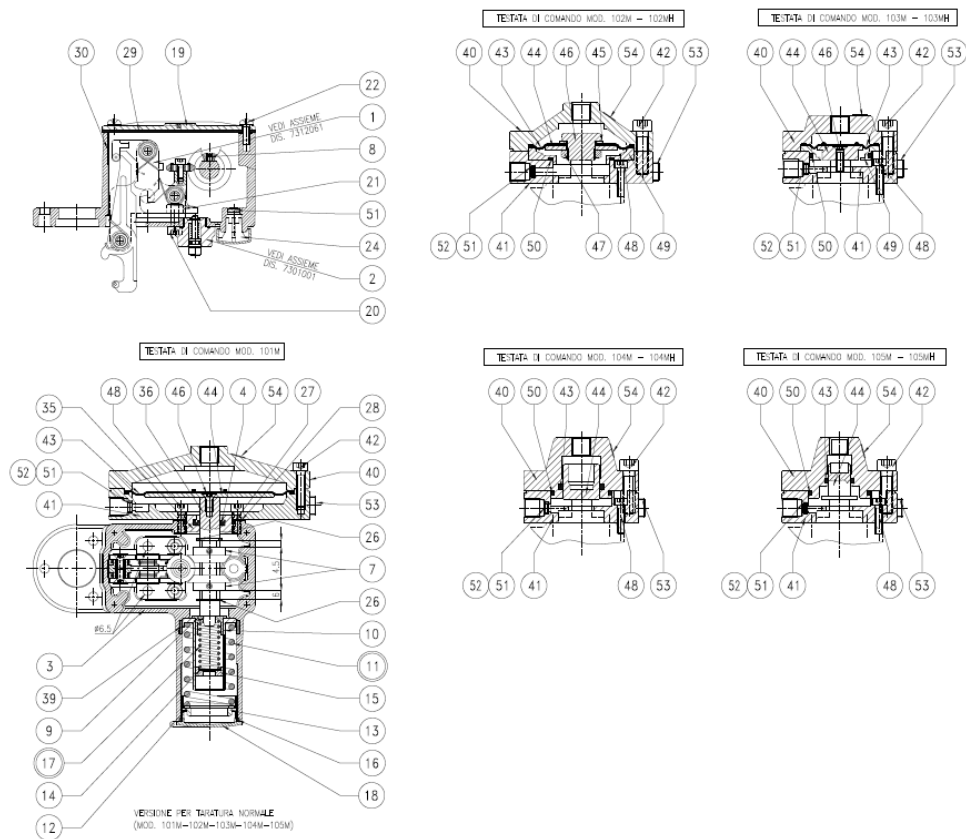

Fig. 17
- 45) Slacken the fixing screws, pos. 64, so as to partially slacken the spring, pos. 48; before removing them completely, ensure that you can support the weight of the slam-shut device adequately.
- 48) Remove the screw pos.37 and remove the intermediate flange pos.8
- 49) Unscrew the screws, pos. 3, and remove the obturator, pos. 2, and the spring, pos. 47.
- 50) Unscrew the ring, pos. 1, and the ring, pos.18, from the obturator, pos. 2.
- 51) Keeping the shaft, pos. 6 firm, slacken the screw, pos. 5.
- 52) Remove the ring, pos. 4, and the spring, pos.48.
- 53) Remove the retaining ring, pos. 28, and the shaft guide, pos. 10.
**(FIG 17)**
- 54) Slacken the screws pos. 42 from the pressure switch device, and remove the cover pos. 40.
**SB/82 SLAM-SHUT RE-ASSEMBLY (FIG 17)**